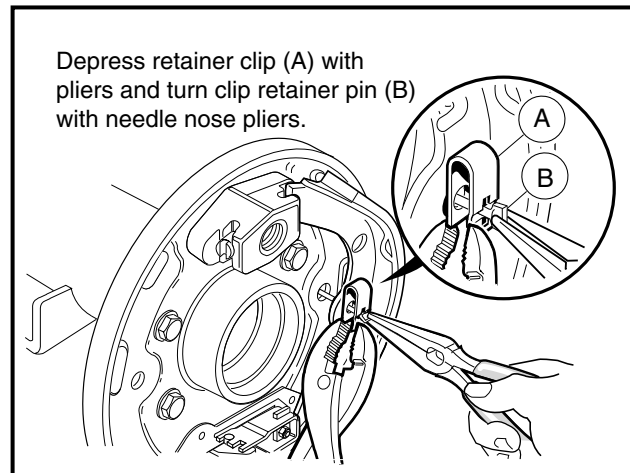

Figure 6-23 Retainer Clip
2. Install shoe retainer clip (1), using pliers to compress clip while turning clip retainer pin (2) into position (**Figure 6-23, Page 6-10**).